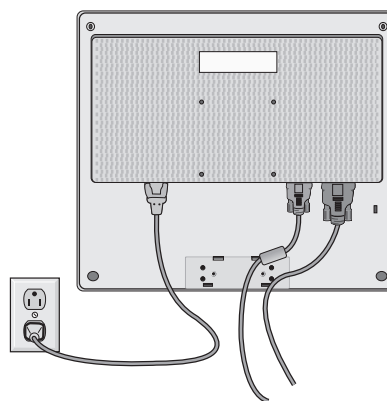

Figure R.3
5. Connect the AC cord and signal cable to the back of the monitor (Figure R.3).